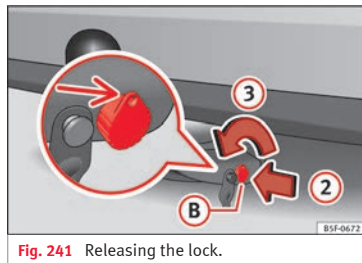

Fig. 241 Releasing the lock.
- Insert key ② into the lock in the direction of arrow ② » Fig. 241.
- Turn the key in the direction of arrow ③ until the part of the key with the holes is facing upwards.